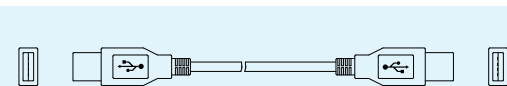

Fig.11 USB cable (A-A type connector)
2. Cable for USB connection shall be prepared by customer. Connector A-A type is necessary. (Refer to Fig.11)